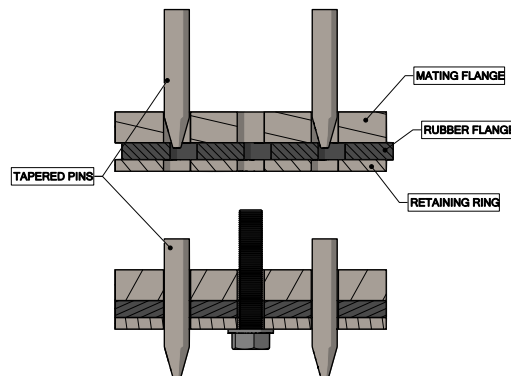

Figure 13: Installing Expansion Joint with Minor Misalignment
Step 2: Place and align the expansion joint into the system. Take care when installing the expansion joint into the system to prevent any damage to the expansion joint, refer to section 2.2 for large joint handling if applicable. To facilitate installation of expansion joints with acceptable misalignment, it is acceptable to use tapered pins to align the expansion joint to the bolt holes on the mating flange to ease installation of flange bolting as shown in Figure 13.